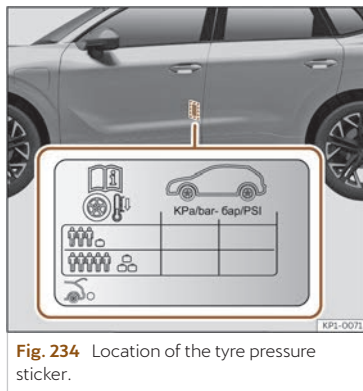

Fig. 234 Location of the tyre pressure sticker.
- Adjust tyre pressure to the load being carried by the vehicle >>> **Fig. 234**.
The values of the tyre pressure are shown on the sticker label located on the rear frame of the front left door >>> Fig. 234.
The tyre pressure must be adjusted according to the load the vehicle is carrying. If the vehicle is going to be fully loaded, increase the tyre pressure to the maximum load value shown on the sticker label >>> Fig. 234.
In the case of a minimised temporary spare wheel (125/70 R16 or 125/70 R18) inflate to a pressure of 4.2 bar as indicated on the tyre pressure label >>> Fig. 234.
- The driver is responsible for ensuring that all of the vehicle tyres are correctly inflated to the right pressure. The recommended tyre pressure is indicated on the label >>> Fig. 234.
- Tyre pressure should be that indicated on the label when the tyres are cold at all times >>> Fig. 234.